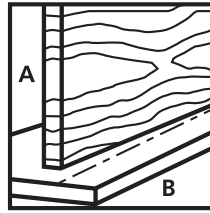

Figure 21
1. Align two boards in the finish position and mark them "A" and "B". Mark a line on board B for the centre points of the dowels. See Figure 21.